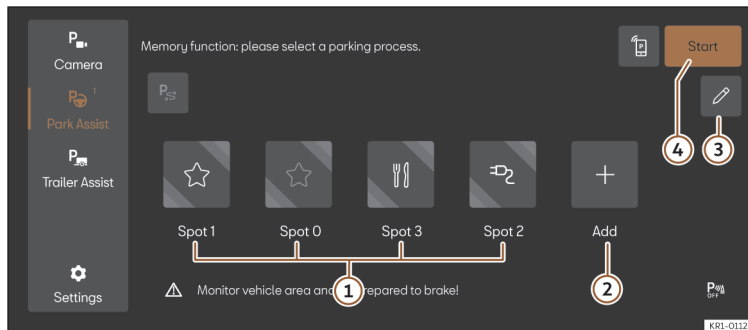

Fig. 142 Schematic representation: Park Assist menu with memory function.
4. Select the function button, assign the symbol you want (>>> **Fig. 142 ①**) and confirm it.
2. If necessary, click on the parking space available icon in the Parking System menu >>> **Fig. 142 ①**. The function button will be displayed in copper.
3. Press the **Start** button >>> **Fig. 142 ④**.